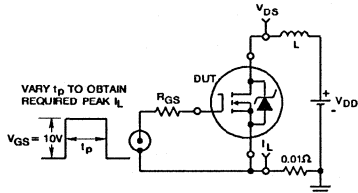

Fig. 14 — Unclamped Energy Test Circuit
4. $V_{DD} = 50\text{V}$, starting $T_J = +25^\circ\text{C}$, $L = 13.6\text{mH}$, $R_{GS} = 25\Omega$, $I_{PEAK} = 3.8\text{A}$. See Figures 14 & 15.
(See Figure 14, $L = 100\mu\text{H}$)